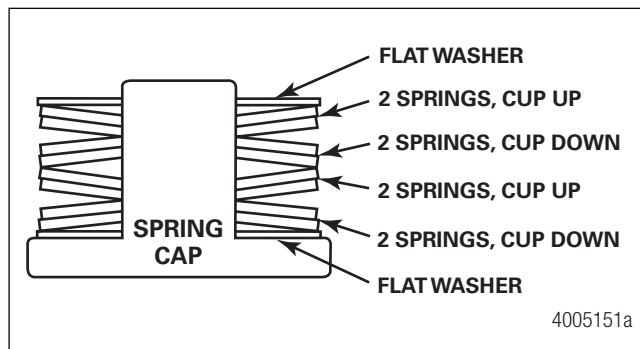

Figure 5.2
3. Install the washers and springs onto the spring caps. Figure 5.2.